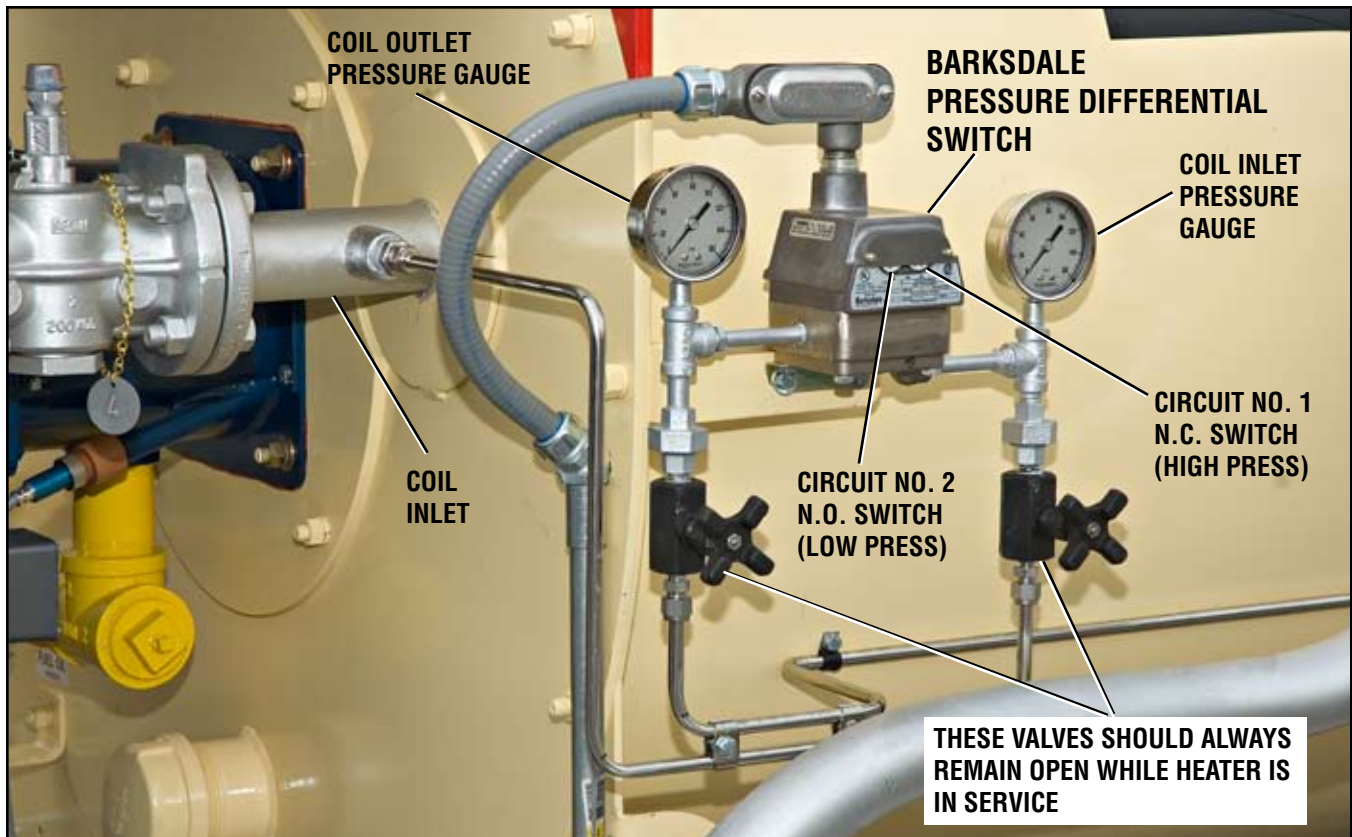

Figure 4. Barksdale pressure differential switch CDPD2H-A80SS
The system should be filled with thermal fluid and purged of air according to instructions in applicable Heatec documents. Bleed the two gauges (**Figure 4**) to remove air. Make sure the strainer is clean and there are no signs of leaks.
Step 3. Enter on Line 1 of **Figure 5** the value shown on the coil inlet pressure gauge (**Figure 4**). This is the maximum output pressure of the pump. It should indicate the same psi as the coil outlet pressure gauge.
Step 7. Enter on Line 2 of **Figure 5** the value shown on the gauge for the coil *inlet*. (**Figure 4**.)
Step 8. Enter on Line 3 of **Figure 5** the value shown on the gauge for the coil *outlet*. (**Figure 4**.)